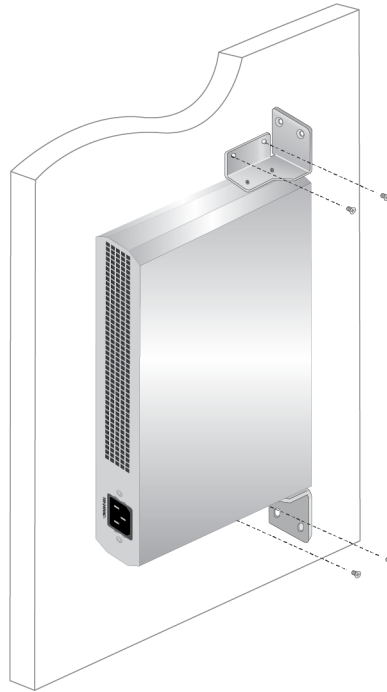

Figure 25. Driving the Screws through the Holes
8. Position the switch on the wall and drive screws through the holes to attach the brackets on the wall. See Figure 25.